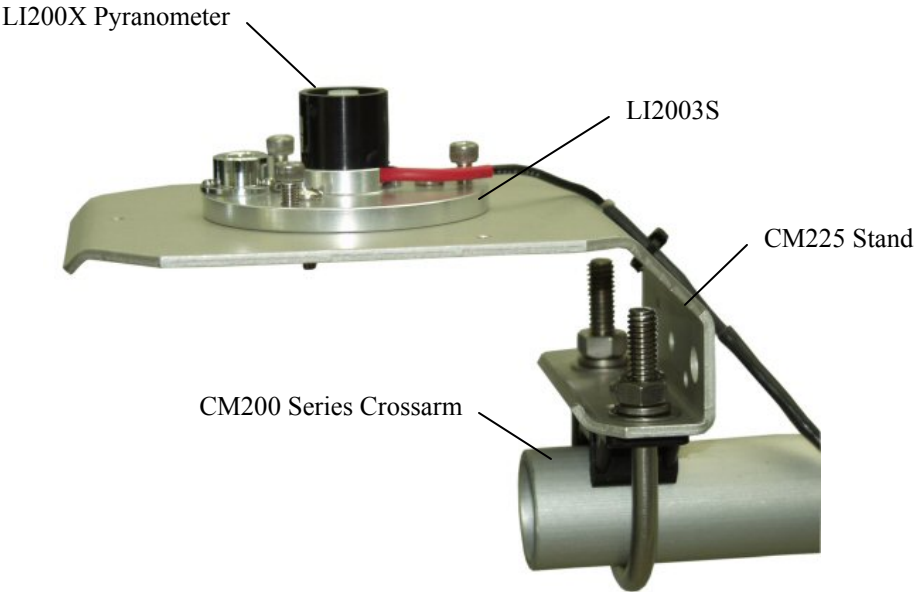

FIGURE 2-1. CM225 Pyranometer Mounting Stand and CM202 Crossarm
To ensure accurate measurements, the LI200X should be mounted using LI2003S base/leveling fixture. This base incorporates a bubble level and three adjustment screws. The LI200X and base/leveling fixture are attached to a tripod or tower using one of three mounting configurations (see Figure 2-1 through 2-3).
- 1/2" open end wrench for 015ARM or CM225 (Figures 2-1, 2-2)